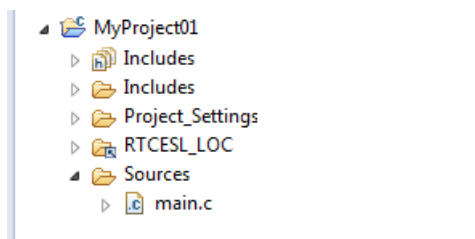

Figure 1-20. Projects libraries paths
- Click Finish, and you will see the library folder linked in the project. See Figure 1-20.